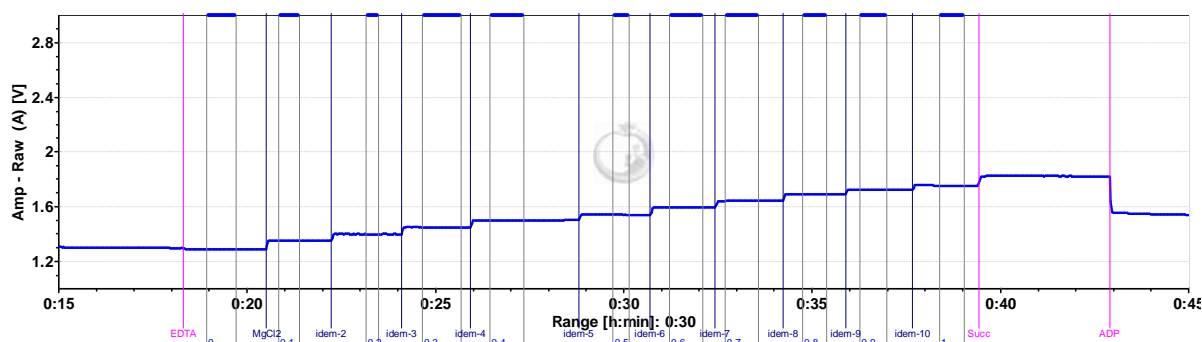

Figure 1.
- In Datlab, select the layout showing “Amp-Raw (V)”.
- Mark the 11 points of calibration: 1 before the first MgCl₂ addition and 10 after each of the MgCl₂ addition (Figure 1).